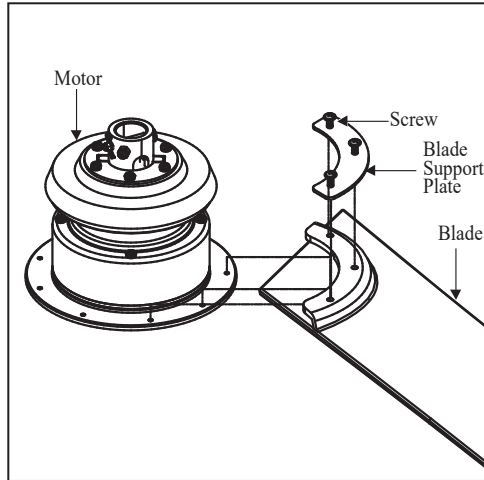

Figure 5
1. Attach the blade to the motor. Align the holes in the blade support plate, the blade, and the fan motor assembly and secure with the blade attachment screws and lock washers. (Figure 5)